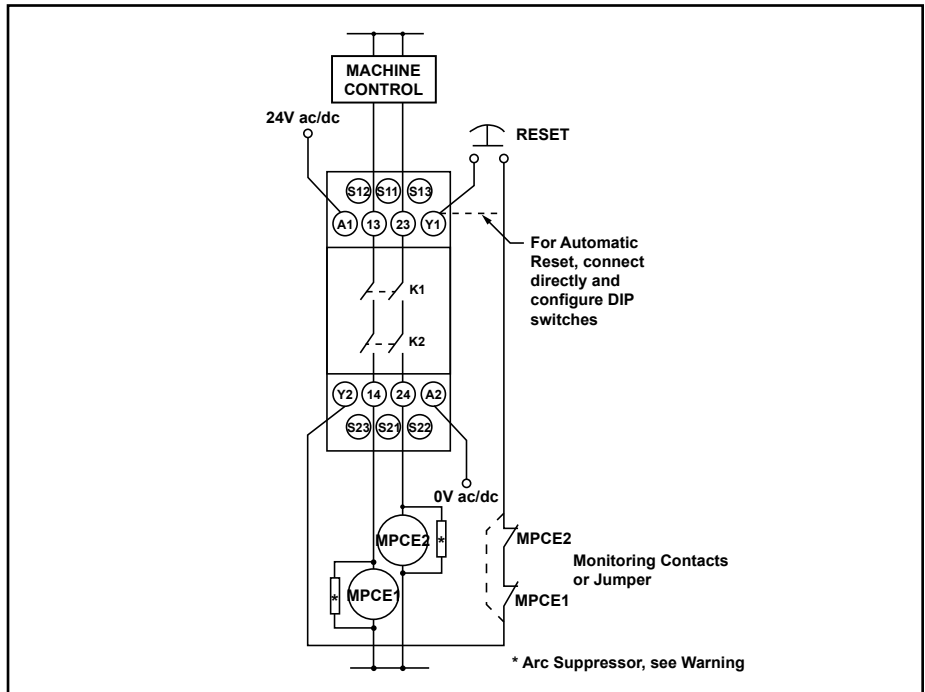

Figure 7. Hookup to the guarded machine
The reset function has two options, selected by DIP switch: Automatic reset or Monitored Manual reset. See Figure 7 for configuration information.
The machine interface hookup diagram (Figure 7) shows a generic connection of the Module’s two redundant output circuits to machine primary control elements MPCE1 and MPCE2. A machine primary control element is an electrically powered device, external to the Module, which stops the guarded machinery by immediately removing electrical power to the machine and (when necessary) by applying braking to dangerous motion. The stop is accomplished by removing power to the actuator coil of either MPCE.
To satisfy the Safety Category 4 requirements of ISO 13849 (EN 954-1), each MPCE must offer a normally closed, forced-guided monitor contact. One normally closed monitor contact from each MPCE is wired in series to the Y1-Y2 feedback/reset input (see Figure 7). In operation, if one of the switching contacts of either MPCE fails in the shorted condition, the associated monitor contact will remain open, preventing the reset of the Module.
The reset switch must be capable of reliably switching 15 to 30V dc at 5 to 50 mA. As shown in Figure 7, the reset switch connects between terminals Y1 and Y2 of the Module. The reset switch must be located outside of – and not accessible from – the area of dangerous motion, and it must be positioned so the switch operator can see all areas of dangerous motion during the reset procedure (see Warning).
To configure the Module for Automatic Reset, set switches S1.2 and S2.2 in Banks A and B to ON. If no MPCE contacts are monitored, install a jumper between terminals Y1 and Y2 (see Figure 7). The Safety Module will reset (and its outputs will energize) as soon as the guards return to their closed position.
3. Apply input power (only) to the Gate Monitor Module at terminals A1 and A2 (see Figure 7). The following LEDs should come ON: